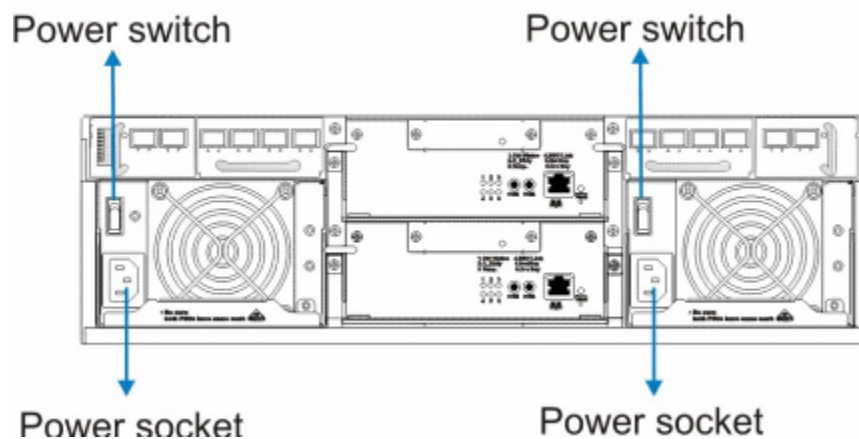

Figure 3-16: Power Sockets and Power Switches
- f* Power on using the two (2) power switches on. (See **Figure 3-16**) Each switch controls a single PSU, therefore make sure that both switches are turned on.